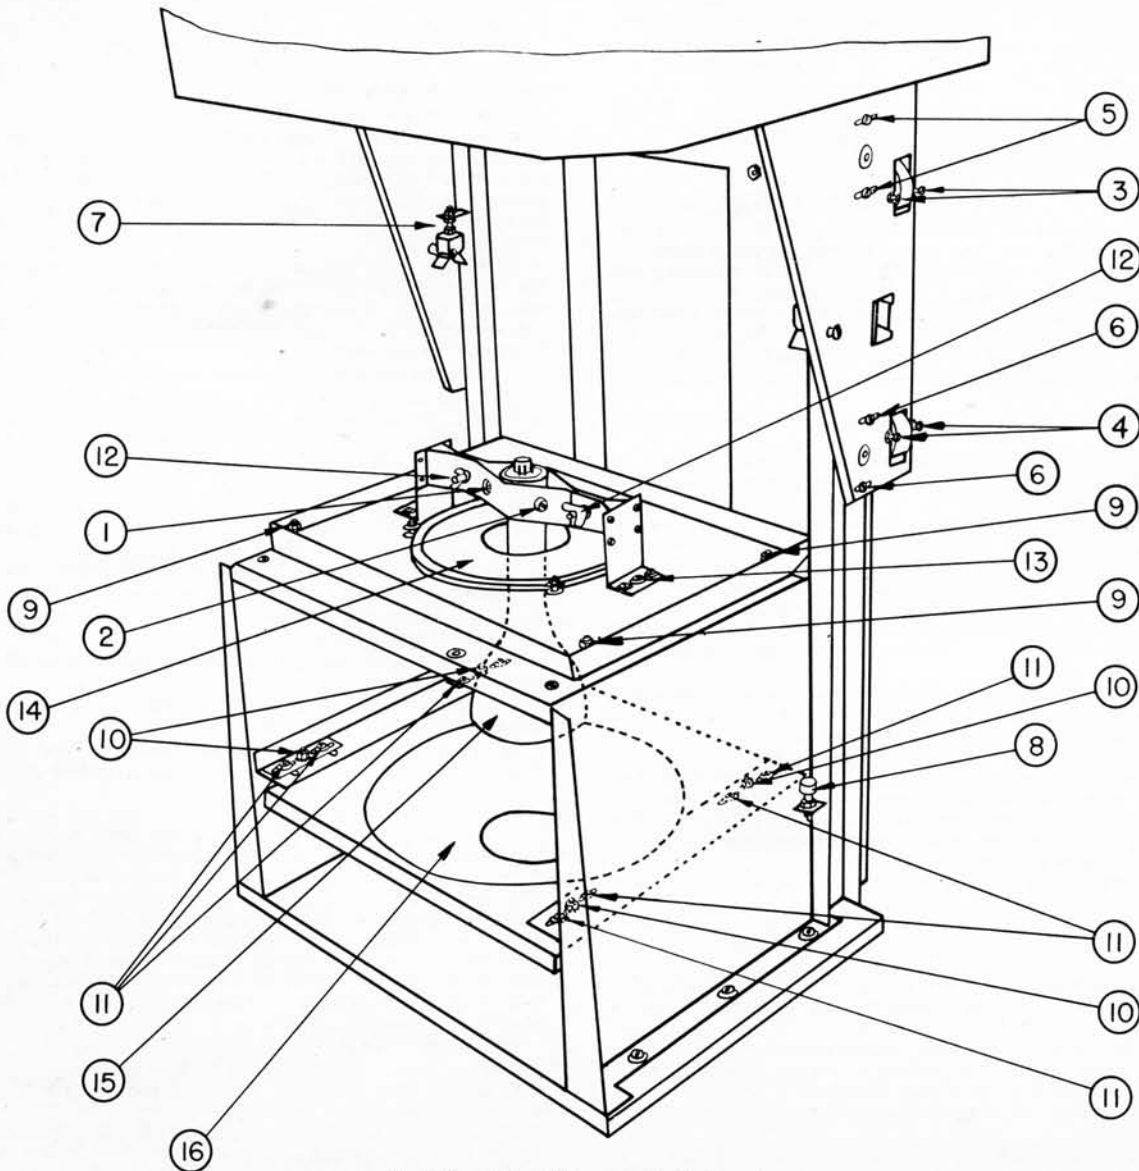

Fig. 35. Optical Alignment Adjustment
**PICTURE TILT**—Squaring up the picture with respect to the viewing screen is accomplished by first loosening the two  $\frac{1}{4}$ -20 round head screws (1 and 2 of Figure 35) just enough to allow
2. With a screwdriver, loosen the two  $\frac{1}{4}$ -20 round head screws (1 and 2 of Figure 35) in the tube clamp on both sides of the neck.
6. Rotate tube so that the anode connection may be made facing the back of the receiver and tighten the two  $\frac{1}{4}$ -20 screws (1 and 2 of Figure 35) firmly to hold tube in clamp.
1. Remove the center screws (13 of Figure 35) and the two adjacent screws holding each end of tube mounting bracket to corrector lens mounting plate.
Refer to Figure 35 for identification of various adjustments. The numbers in parentheses throughout this text refer to the circled key numbers in the figure drawing.